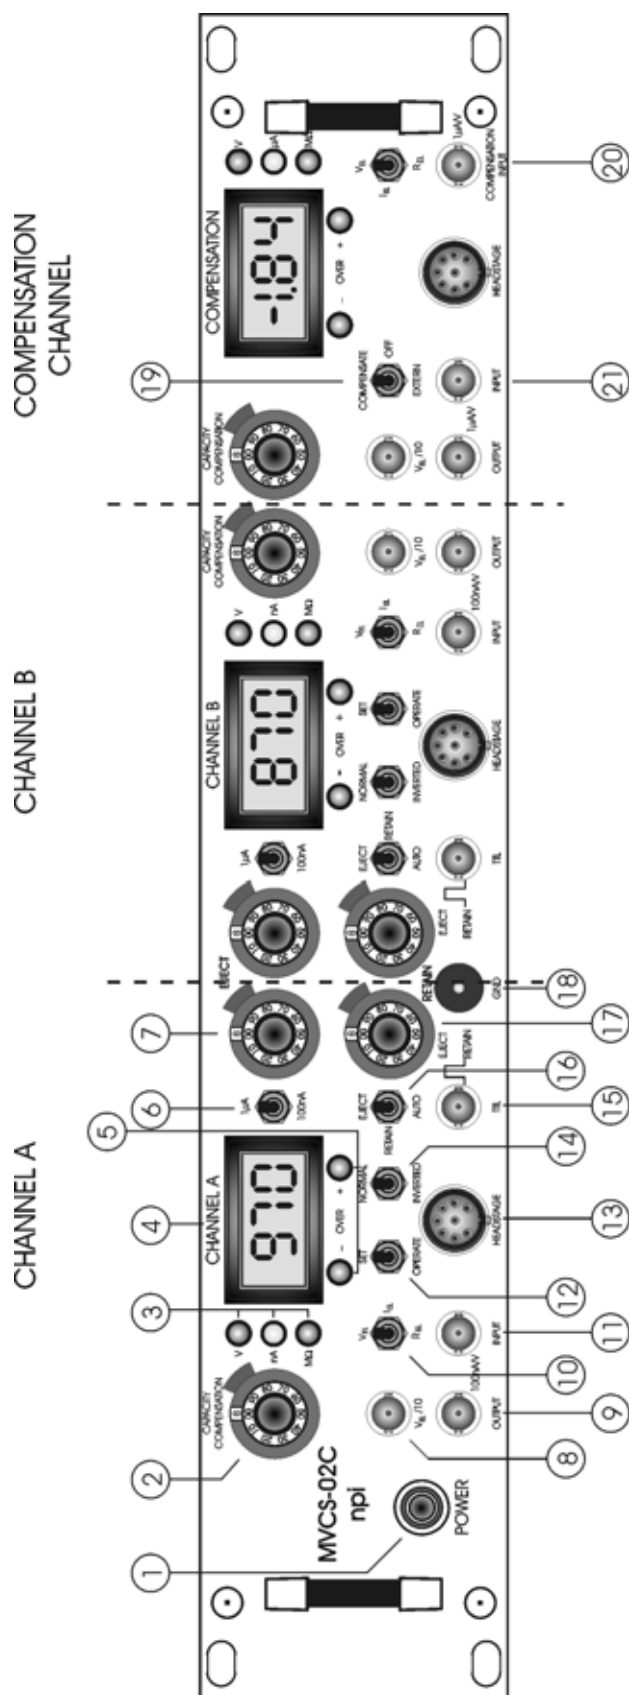

Figure 1: MVCS-C-02C front panel view (the numbers are related to those in the text below)
In the following description of the front panel elements, each element has a number that is related to that in Figure 1. The number is followed by the name (in uppercase letters) written on the front panel and the type of the element (in lowercase letters). Then, a short description of the element is given.
Figure 1 shows the MCVS-C-02C (fast system) with capacity compensation and the automatic electrode resistance test facility. These two features are not present in the MVCS-02C (slow system). In the slow system the CAPACITY COMPENSATION potentiometer is not installed and the function of R_{EL} is somewhat different (see below).
- MVCS-C: Connect the headstages to the HEADSTAGE connectors (#13, Figure 1) at the front panel.
- If the recording chamber is not grounded, connect GND of the headstage (MVCS-C) or GND (#18, Figure 1) to the chamber.
- ❑ If you intend to control the MVCS/MVCS-C system externally (e.g. by a computer) connect the gating waveform to TTL (#15, Figure 1), the stimulus waveform to INPUT (#11, Figure 1) and the current OUTPUT (#9, Figure 1) to the analog input of the data acquisition system.